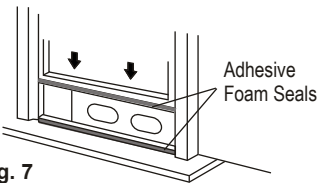

Fig. 7
3. Cut another piece of Adhesive Foam Seal to the proper length and attach it to the top of the Window Slider Kit. Close the window sash securely against the Top of the Window Slider Kit (Fig. 7).